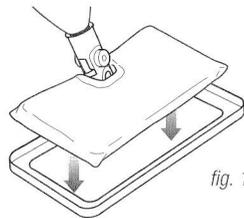

fig. 13
- 1 The Carpet Glider can be used with the All-Purpose Head to lightly steam your carpet and area rugs. Just place the mop head with cleaning pocket attached into the glider. The recommended steam setting is **SCRUB** when using the Carpet Glider. (fig. 13)